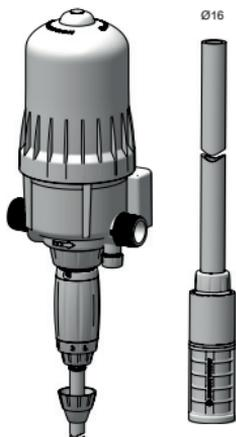

Fig. 7
- Push the hose into the barbed fitting as far as it will go and screw the nut by hand (Fig. 7).